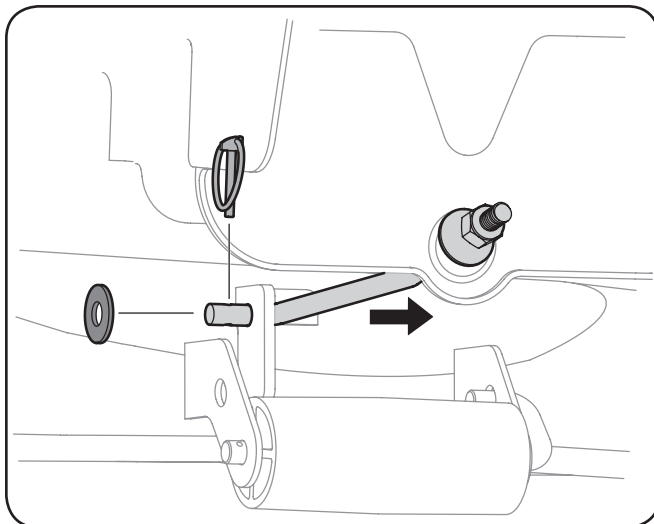

Figure 7-5
10. Remove the cotter pin from the end of the stabilizer rod and slide the stabilizer out of the hanger bracket on the deck. See Figure 7-5.